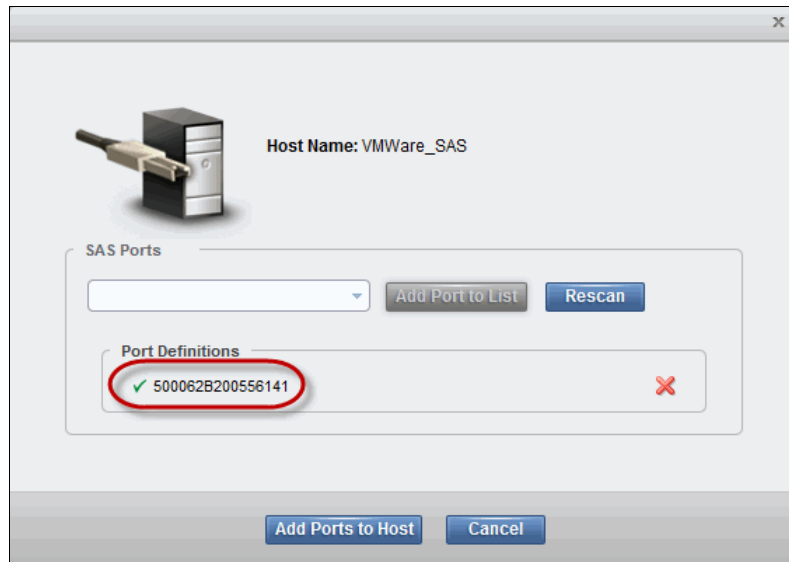

Figure 8-32 Adding an online SAS port
3. Select the required SAS WWPN and click **Add Port to List**, as shown in Figure 8-32. Repeat this step to add more ports to a host.